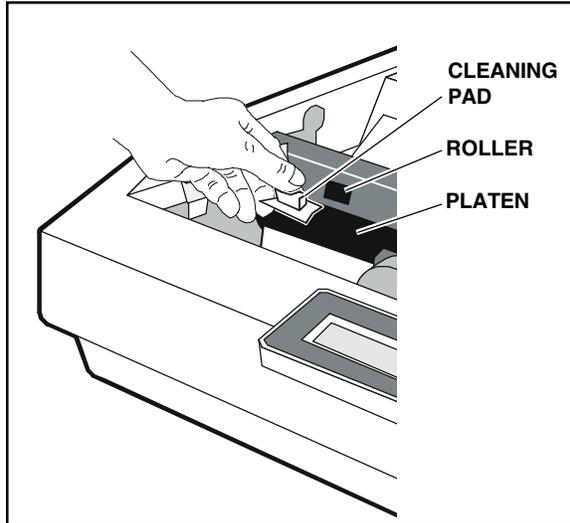

Figure 5-1. Cleaning the Platen and Rollers
4. Use a clean pad moistened with Fedron to wipe the rubber surface of the platen and roller surfaces until they are dull and clean, as shown in figure 5-1. Turn the Select-dial as needed to rotate the platen and rollers.